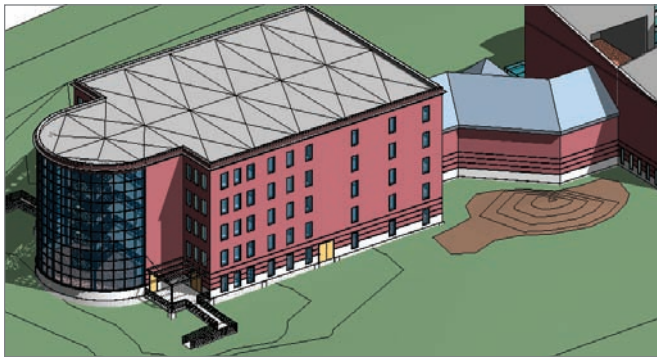

FIGURE 18.10 The raised area of the site
12. Deselect the topography. Your site should resemble Figure 18.10.